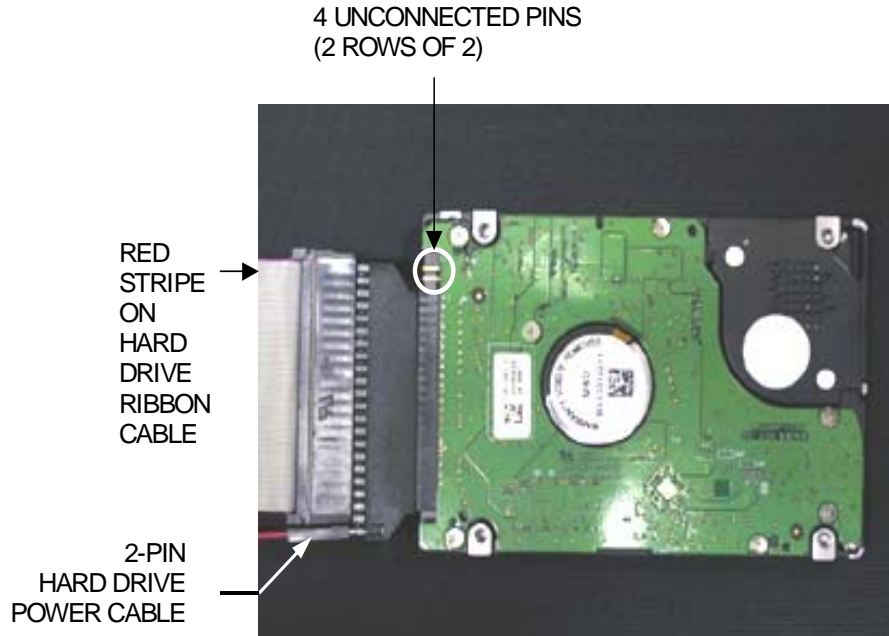

FIGURE 8- CIRCUIT-BOARD SIDE OF HARD DRIVE
4. Connect the hard drive cables to the hard drive. *If your Fusion has a hard drive ribbon cable:* note that 4 pins on the hard drive are set off and will remain unconnected. Make certain that the red stripe on the ribbon cable, indicating pin-1 position, is inserted facing the unconnected pins, and on the opposite side of the 2-pin hard drive power cable. (Figure 8).